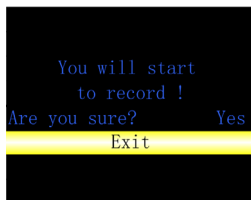
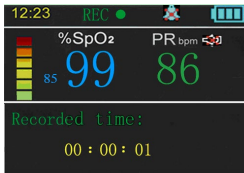

Figure 5.6 Record setting menu
Figure 5.7 Recorded time interface
- 1) When "Record" is "OFF", select it to enter record setting menu shown as Figure 5.6. The prompt information "You will start to record! Are you sure?" displays on the interface, select "Exit" after setting to "Yes" to enter the record interface, under record interface, record sign is "REC ●", it indicates that it is recording when "●" flickers, recorded time displays on the interface shown as Figure 5.7. Select "Exit" after setting to "No" to enter the interface which will not record.